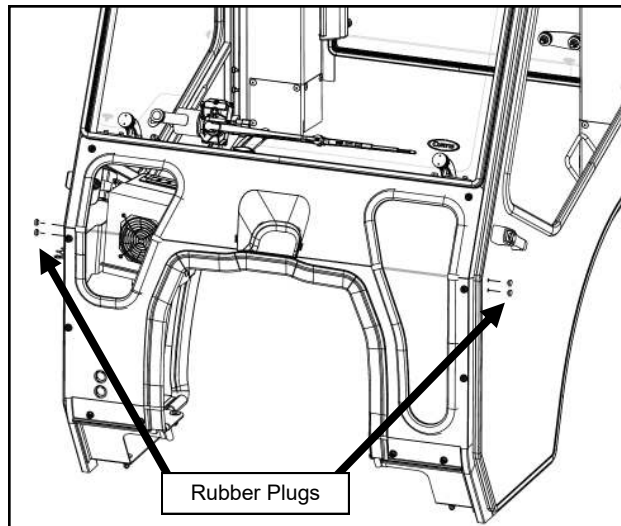

Fig. 25.1a (Install Plugs)
**25.1** If installing accessories, please do so now. If not, use the supplied plugs to fill any exposed holes. *The roof assembly has been hidden for clarity.* See Figures 25.1a, 25.1b and 25.1c.